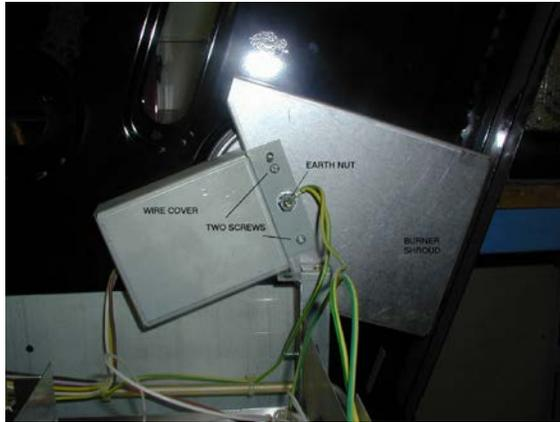

Fig 3.
1. Remove nut holding earth wire to electric burner shroud (Fig 3)
2. Undo 2 screws holding on wire cover. (Fig 3)